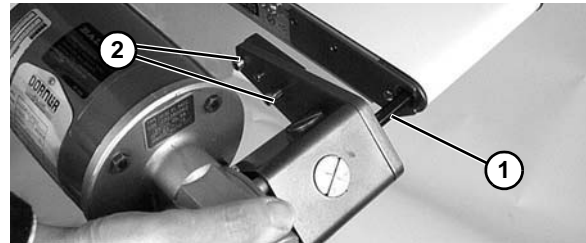

Figure 15
6. Insert hex shaft (**Figure 15, item 1**) into drive pulley hex bushing and slide drive against conveyor. Install two (2) screws (**Figure 15, item 2**). Tighten to 80 in-lb (9 N-m).